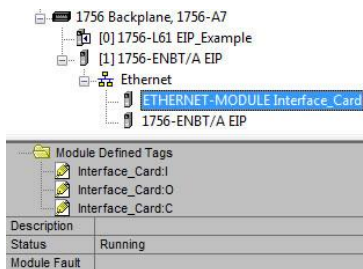

Figure 33: Online Module Status
- 7) Switch to online mode and download the project to the PLC. Verify that the newly-added inverter is available and operating correctly by observing any indications shown on the inverter's icon. When the inverter's icon is selected, its status and any available error messages will be displayed in the area below the project tree. Refer to Figure 33. Also confirm that the interface card's “Network Status” LED should be solid green, indicating an “online/connected” state.